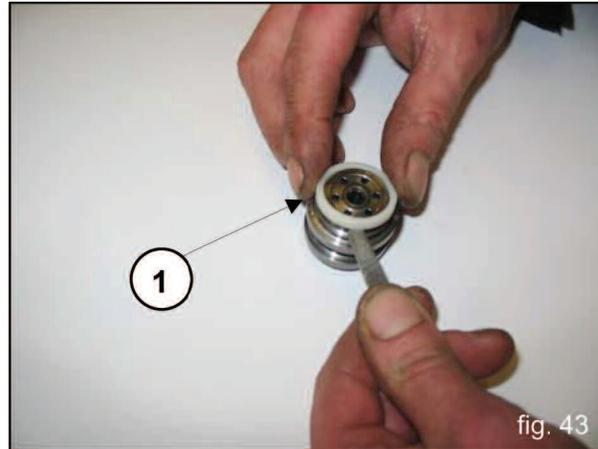

fig. 43
E) Extract the valve housings (1) as indicated in fig. 43. Check the conditions of the various components and replace if necessary.